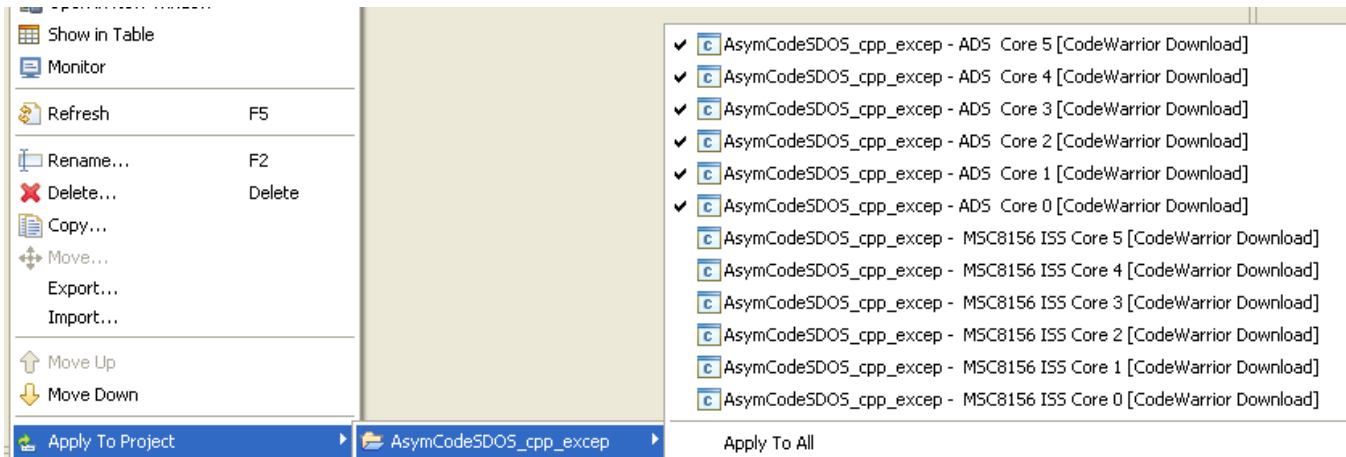

Figure 5. Apply Existing Remote System to Launch Configuration
- In the drop down menu select **Apply to Project** > **{ProjectName}** and select each ADS related launch configuration (Figure 5).